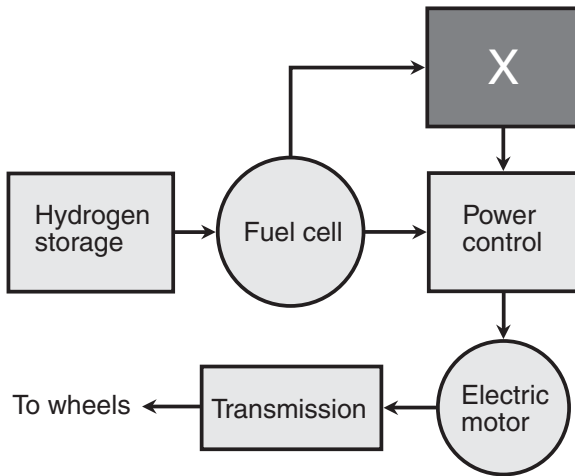

Figure Exam-9 Diagram for question 98.
98. Figure Exam-9 is a simplified functional block diagram of a hydrogen fuel-cell vehicle. What is represented by the box marked X?